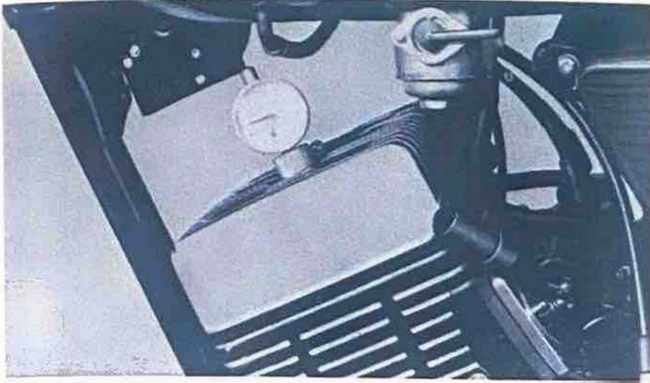

Fig. 48
1. IGNITION TIMING — CHECKING AND ADJUSTMENT (Fig. 48)